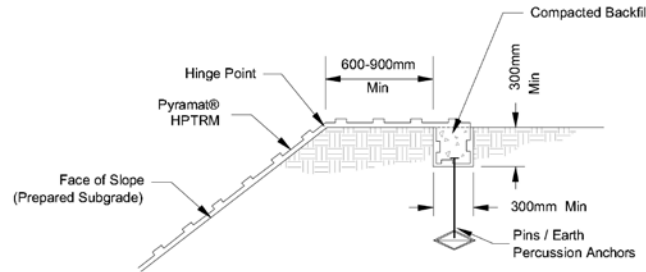

FIGURE 2: INITIAL TRENCH AT TOP OF SLOPE DETAIL
- Excavate initial trench 300mm x 300mm minimum 600-900mm over the crest of slope (see Figure 2).
- Beginning at the downstream end of prevailing winds, place roll end into the initial trench and secure with pinning devices on 300mm centers and with earth percussion anchors on 1.2m centers (see Figure 2). Position adjacent rolls and secure in trench in same manner. Backfill and compact soil into trench as directed and approved by Engineer.